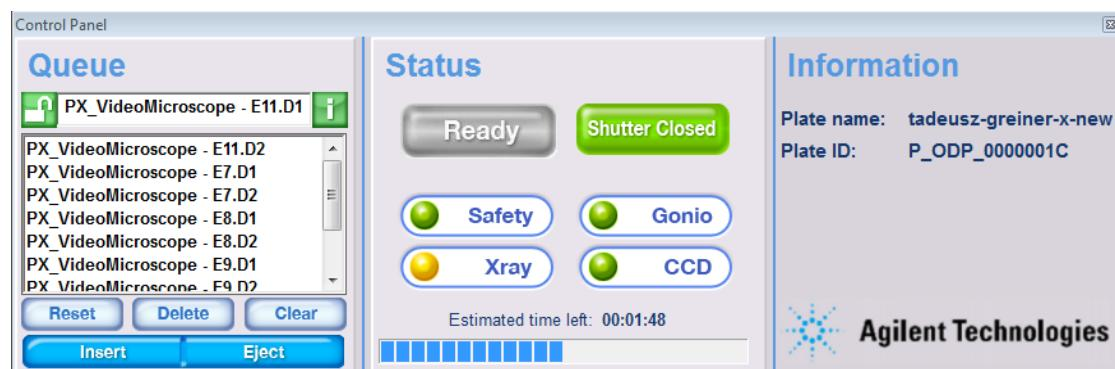

Figure 10 The Control Panel
- The insert button is pressed in control panel (see Figure 10)